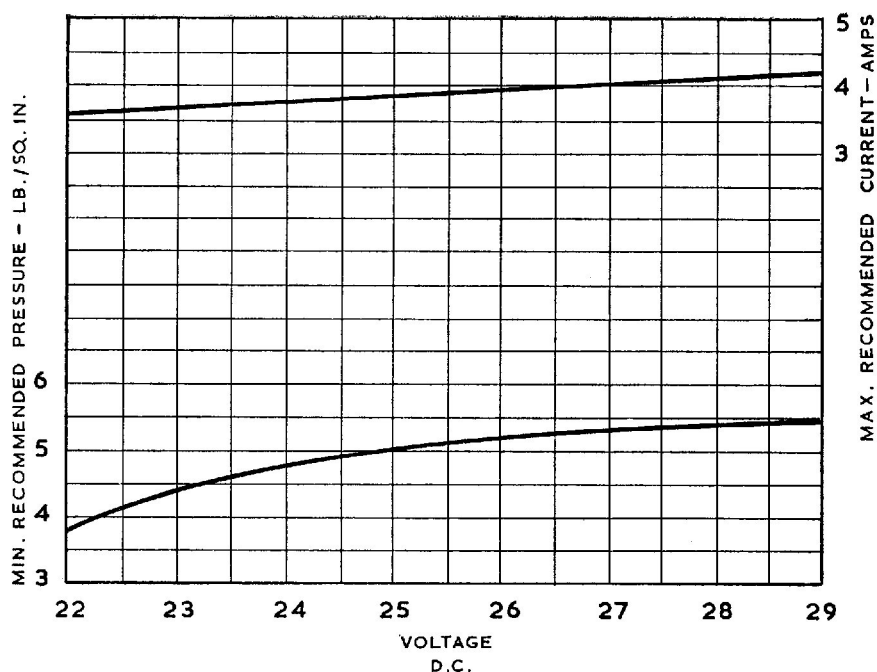

Fig. 3. "No fuel flow" electrical test graph
- (1) A steady reading not exceeding that indicated by the graph (fig. 3) for the measured applied voltage, indicates that the motor unit is functioning satisfactorily.
The graph (fig. 3) is provided as a guide to pump performance under no-flow conditions: the figures derived from it are not to be interpreted as forming a part of the approved Acceptance Test Specification for the pump.
| Minimum no-flow delivery pressure | ... | ... | ... | ... | ... | See Fig. 3, basic chapter. |